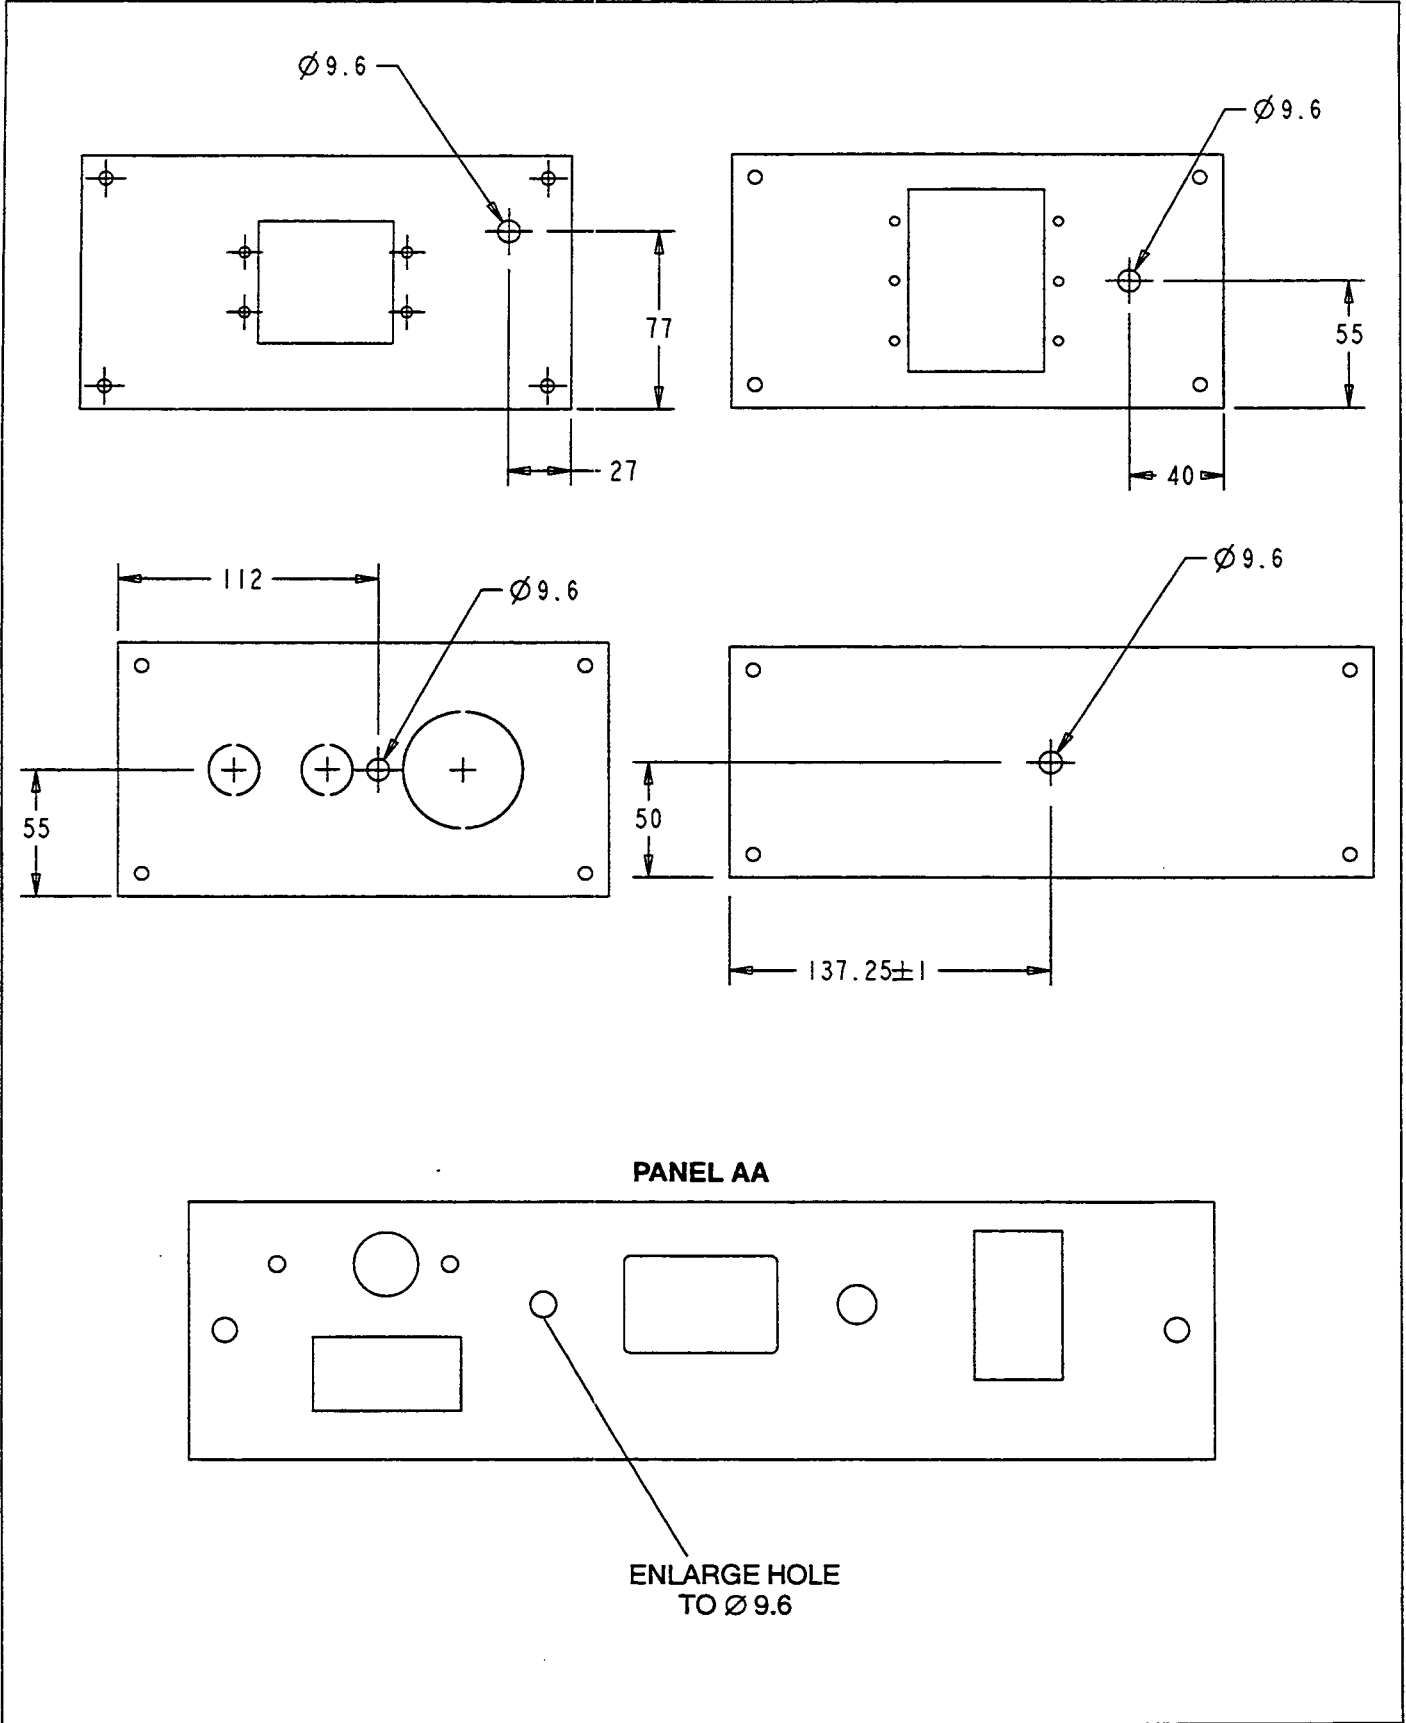

FIGURE 1. CIRCUIT BREAKER LOCATION
4. Remove the appropriate control box panel and drill .375 inch (9.6 mm) hole for mounting of circuit breaker as shown in Figure 1.
If panel AA in Figure 1 has an optional dual gage switch, move switch to gage panel first, then enlarge hole in lower control panel for circuit breaker.